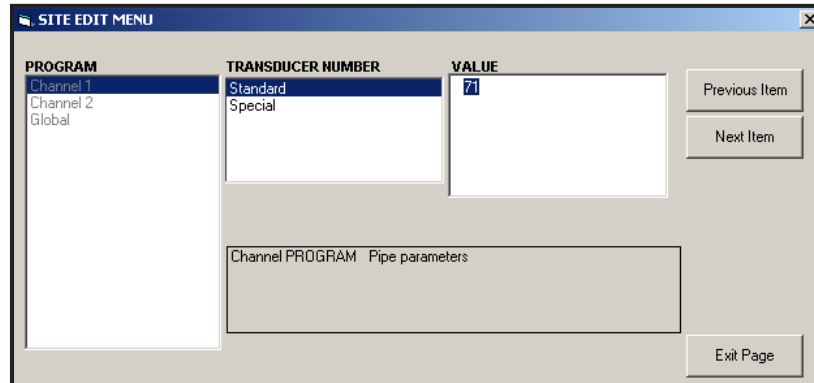

Figure 42: Pipe Parameters Option in the *Site Edit Menu*
- a. Highlight and double-click on the desired option in the center pane. Figure 42 on page 90 shows the first entry (Transducer Number) in the *Pipe Parameters* option. The title above the center pane lists the current entry, while the center pane displays the available selections for that entry.